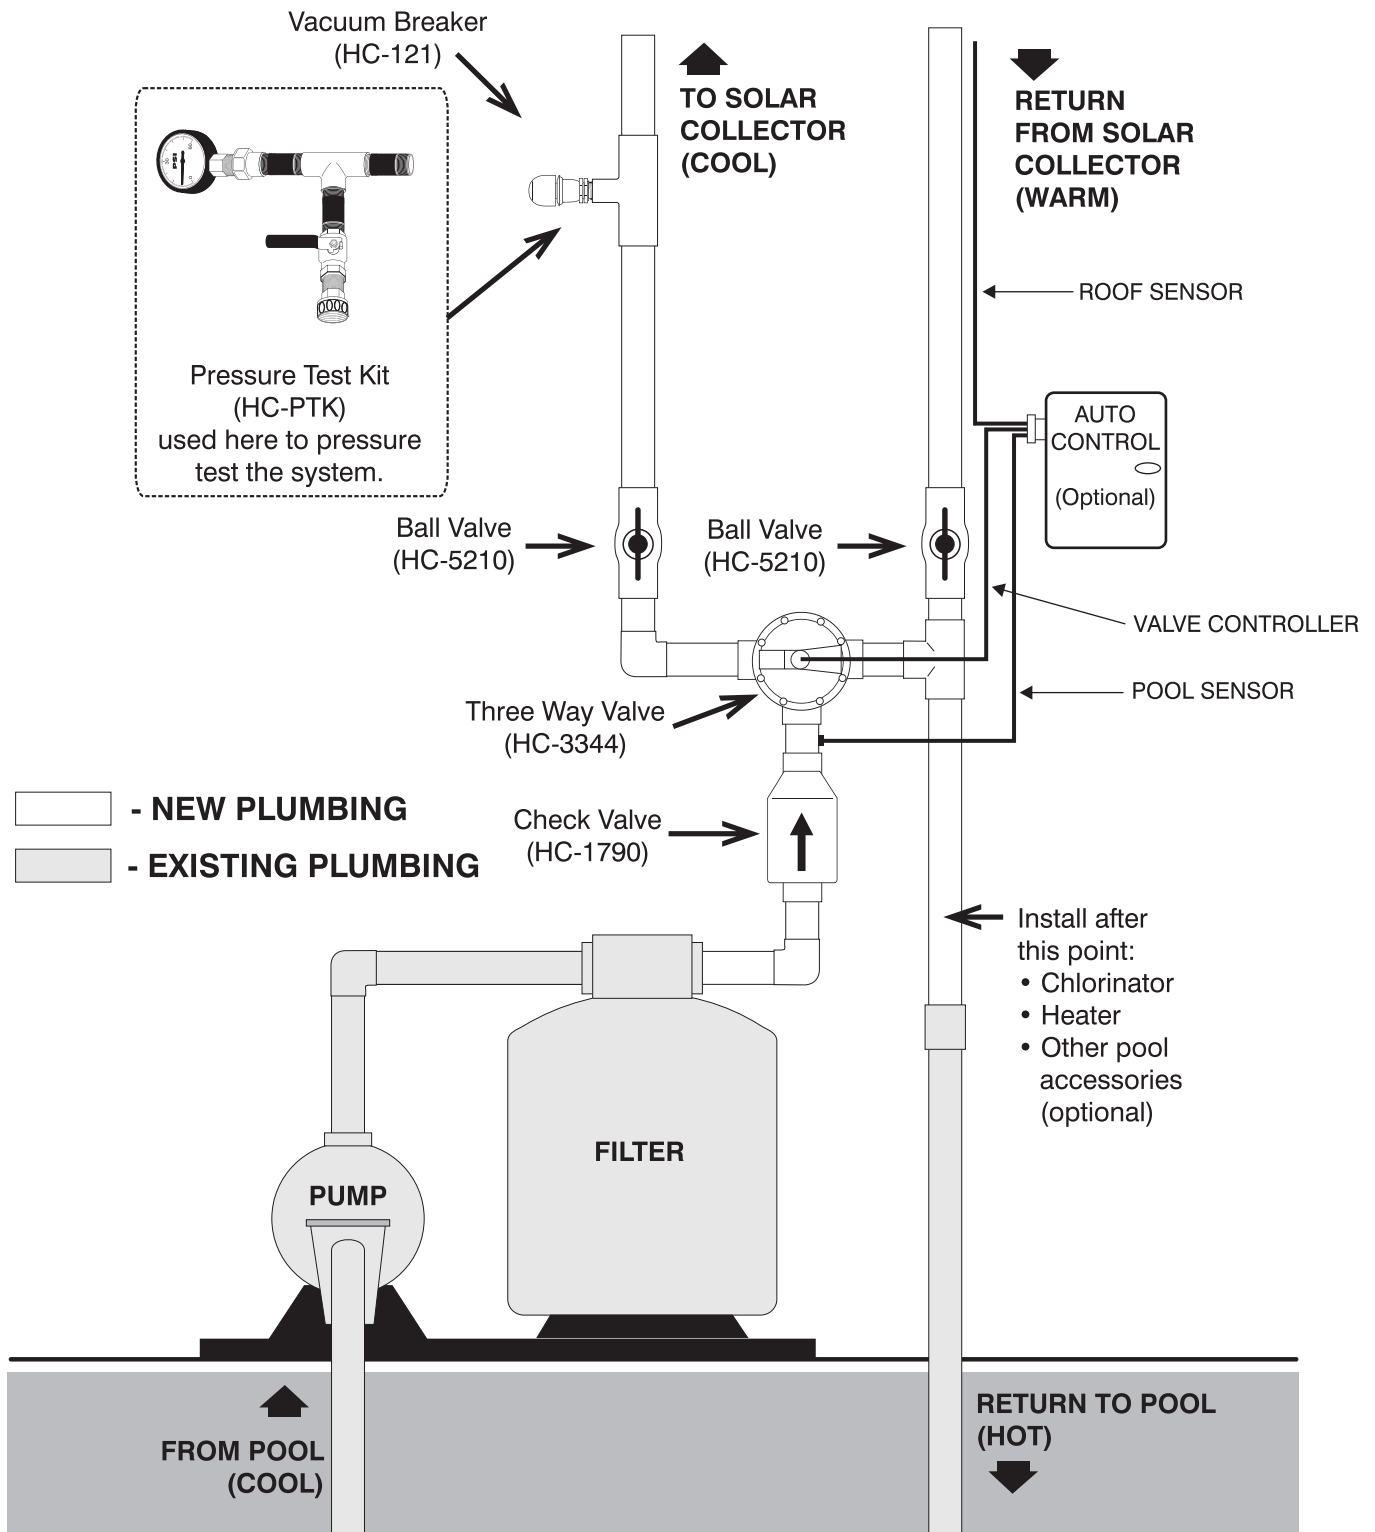

FIG 12.1
2. Determine where the feed and return pipes will go over the edge of the roof. If possible, this should be perpendicular to the exact points where they will fasten into the existing system or into pipes coming from another location (see Fig. 12.1, pg. 19).
Fig 12.1 on page 19 shows how a typical Heliocol Solar Pool Heating System is plumbed into existing pool plumbing. This drawing may not be just like every system you encounter. The feed and return plumbing on a solar system may be reversed, or it may have a different type of filter, or it may have additional equipment such as a chlorinator, pool cleaner, gas heater, etc. It may also have a long run of plumbing from the pool equipment to the solar panels.
Whether the system is like this or not, Fig 12.1 will help you understand the flow of water from the pool, through the pump, filter, solar system and back to the pool. Study the diagram and become familiar with the valves needed to connect the solar panels to existing plumbing.
1. Study the plumbing after the filter and decide where you are going to install the Union Check Valve and the PVC tee fitting (see Fig 12.1). If you have auxiliary equipment, you may need to re-plumb a portion of your existing plumbing so this equipment is located after the solar system as indicated in Fig 12.1.
2. Cut the pipe after the filter where you have decided to locate the Union Check Valve and where your solar return pipe will attach to your existing pool return line. If your pool plumbing is 1-1/2" and you are running 2" plumbing to your solar system, you should be using 2" valves and piping for all of your new plumbing, so you will need (2) 2"x1-1/2" reducer bushings to adapt your new 2" fittings to the existing 1-1/2" pipe.
6. Install the HC-121A Vacuum Breaker about 4' up the feed line using a PVC tee and red bushing. Face the tee to the outside as shown in FIG 12.1. Wrap the threads of the Vacuum Breaker with teflon tape and screw it into the 3/4" threaded reducer bushing.
- b: Locate vacuum breaker on the feed line as shown on page 19 FIG. 12.1, and put solid end cap at end of top header where vacuum relief was located.